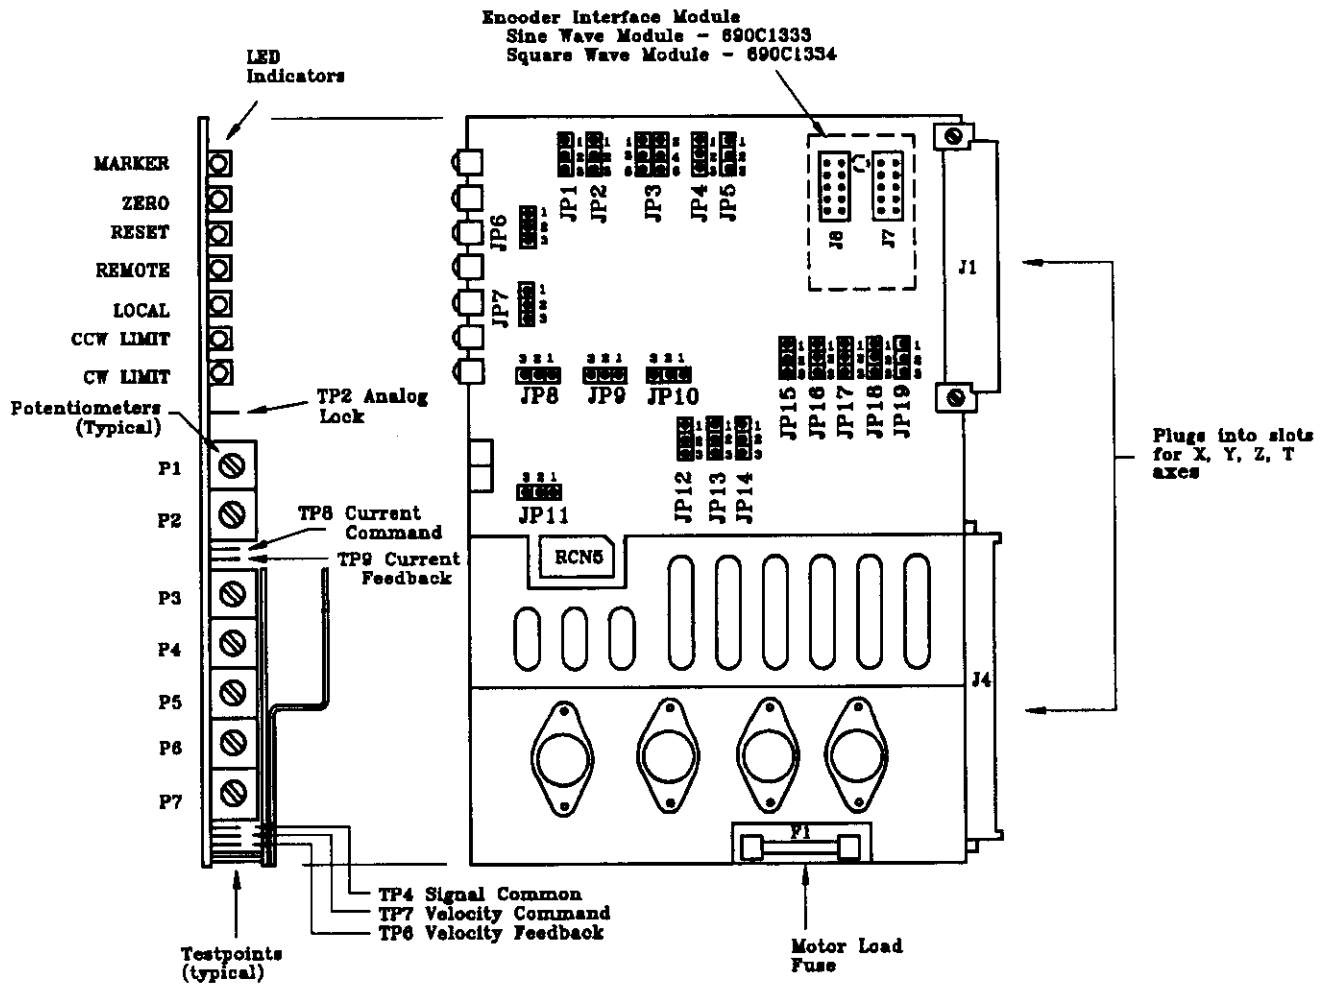

Figure 6-8: Outline of the DSL 4020, 8020 AND 16020DC Servo Drive Module
See Figures 6-8 and 6-9 for jumper locations.
Multiplying the Encoder signal by 1, 2, or 4 (X1,X2,X4), involves the manipulation of jumpers and, in case of amplified sine wave Encoders, the changing of resistor values on the Encoder interface module (see Figures 6-8 and 6-9). For square wave Encoder operation, only jumpers on the main board must be selected.
3. **REMOVE MOTOR FUSE** (see Figures 6-8 and 6-9), connect the oscilloscopes common lead to TP4 (Signal Common), Channel 1 probe to TP3 (Cosine Square) and Channel 2 probe to TP5 (Sine Square). For the placement of testpoints and motor fuse, see Figures 6-8 and 6-9. Apply power, manually turn motor CW and check phasing of Encoder signals at TP3 and TP5. Note that signals at TP3 and TP5 will always be square wave signals, even if sine wave Encoders are used. Also check for a positive Velocity Feedback voltage at TP6 while turning the motor CW.